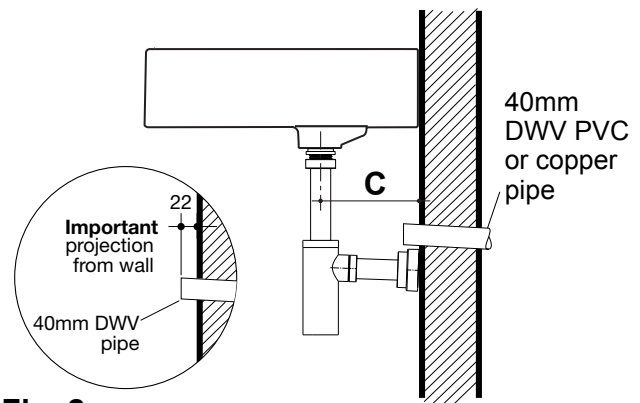

Fig. 2
1. Measure the basin waste setout **C**, as detailed in **Fig. 2**.